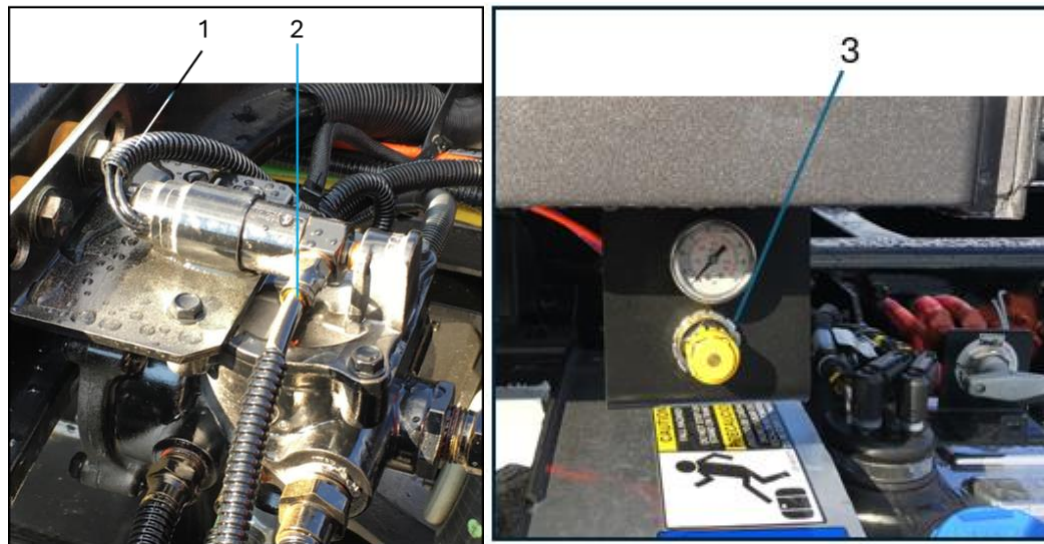
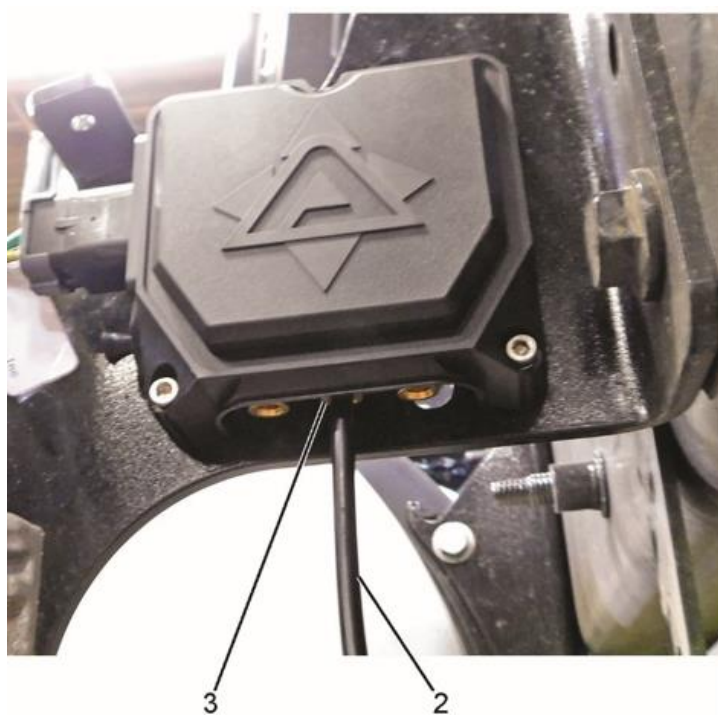
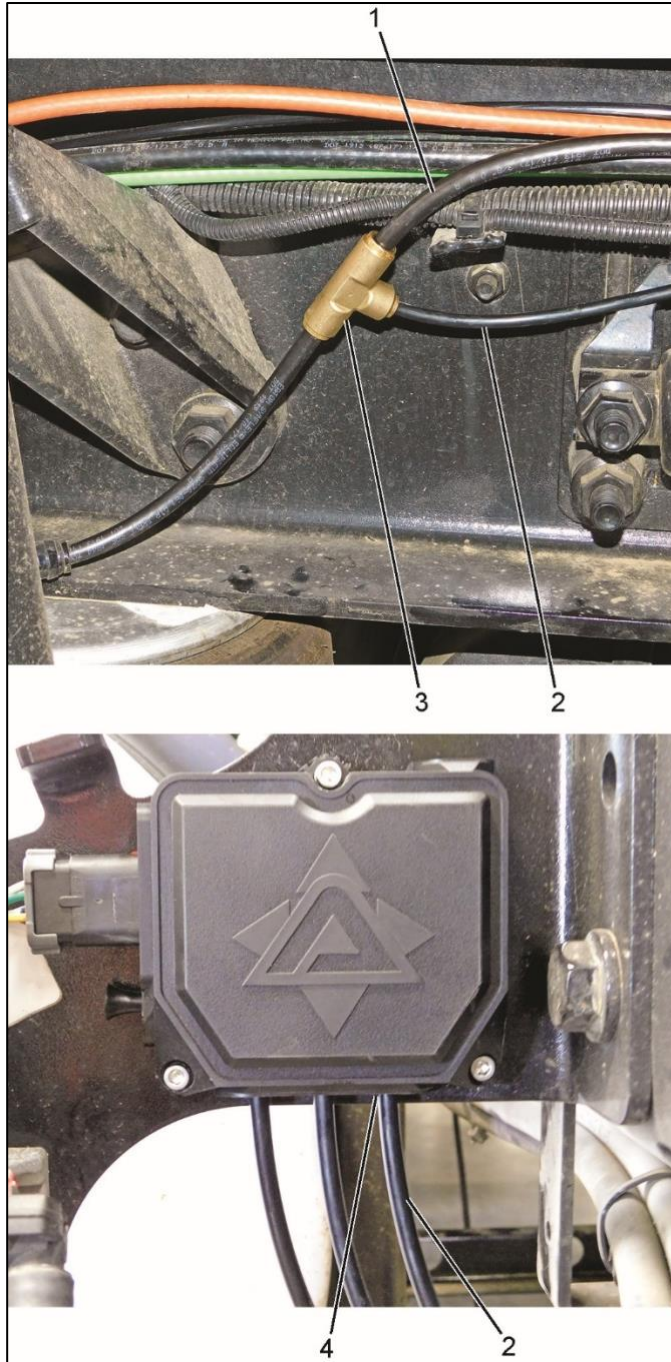

Figure 6
Figure 8
Figure 9
13. Route iLift wire harness (single lead) to lift axle control valve on the vehicle (Figure 6).
14. Connect iLift wiring harness blue, single lead to OEM solenoid control of the lift axle valve (Figure 6, Item 1).
NOTE: The lift axle valve is equipped with a control solenoid (NC), the solenoid must be unplugged from the vehicle wiring harness (Figure 6, Item 1).
16. Cut the positive wire (Figure 6, item 1) on the vehicle wire harness for the LACM control solenoid. Leave enough space on either side to splice in iLift wiring harness blue wire.
19. Disconnect regulator (see Figure 6, Item 3) output air tube on current vehicle controls, feeding the lift axle valve pilot port (input) (Figure 6, Item 2) and route to iLift PCU port 1 (Figure 7, Item 3). See air schematic Figure 3
NOTE: Remove current controls (Figure 6, Item 3) from vehicle. These controls are replaced
20. Re-route regulator input (Figure 6, Item 3, current controls, tank air) and connect air tube (Figure 8, Item 2) to iLift PCU port 2 (Figure 8, Item 3).
22. Using T fitting (Figure 9, Item 3) connect to vehicle air ride suspension supply tube (Figure 9, Item 1). (See vehicle pneumatic schematic for air ride supply location.)
23. Connect air tube (Figure 9, Item 2) to T fitting (Figure 9, Item 3) and route to iLift PCU.
Note: Installations on vehicles with primary mechanical suspensions, port 3 (Figure 9, Item 4) needs to be connected to tank air (Figure 8, Item 2), ¼" PTC union T needs to be locally sourced.
24. Connect air tube (Figure 9, Item 2) to iLift PCU port 3 (Figure 9, Item 4), and secure with wire ties as needed.
32. Alternatively route the 7-way harness to the trailer nose box (Figure 9, J560 pin out) and connect to Pin 7 (Power) and Pin 1 (Ground)